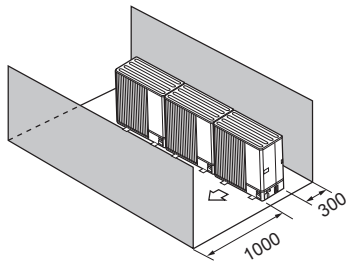

Fig. 1-16
- ④ Obstacles at front and rear only (Fig. 1-16)